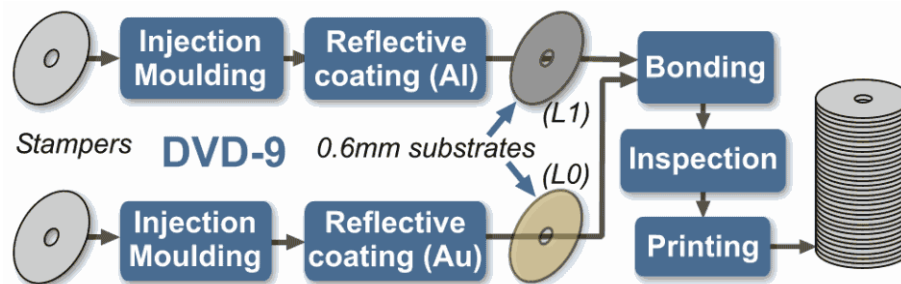

Figure 13 DVD-9 Replication
- For **DVD-9** discs two metallisation layers are required, one being semi-reflective, using gold or silicon (see Figure 13). Parameters such as tilt, bonding layer transparency etc are more severe for DVD-9. Also the layer 1 aluminium layer must be uniform in thickness to avoid jitter.